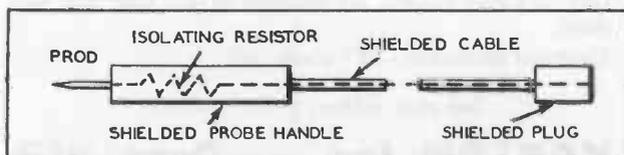

Figure 1. D-C VTVM Probe.
1. DC - VTVM Probe. Best known to the radio service man is the isolating probe used with a DC vacuum-tube voltmeter. In its conventional form, the unit consists of a regular shielded test prod containing a built-in 1-megohm resistor. See Figure 1. The purpose of the resistor is to isolate the test-prod tip from capacitance effects due to the operator's hand and the test-lead cable.